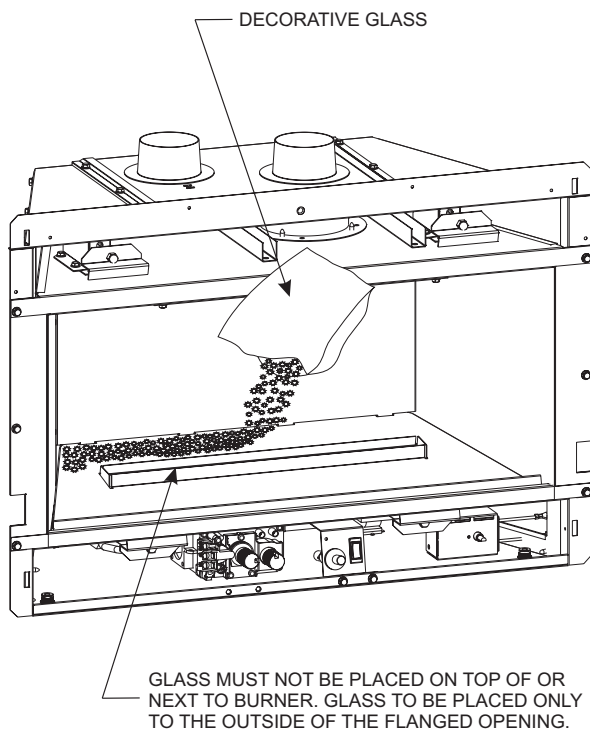
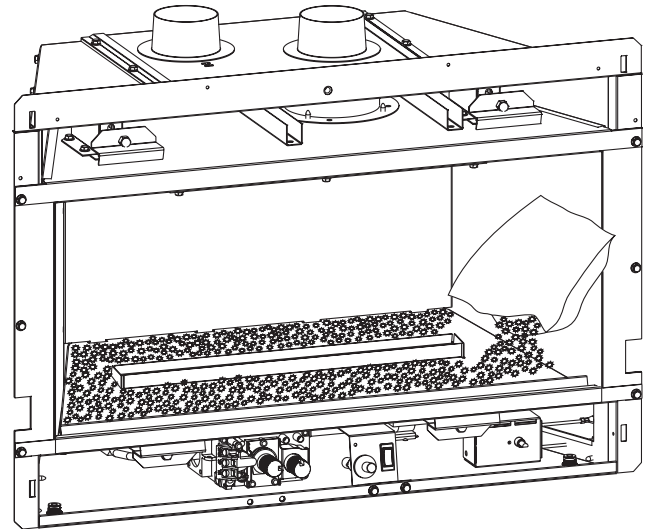

Figure 19
Figure 20
2. To install the Decorative Glass, cut off a corner of the plastic bag and proceed to apply the glass to the rear shelf on the Loft burner (area behind the burner). Apply only enough glass to the Top Cover to cover the black metal surfaces. Do not allow the glass to fall around the burner tube. See Figure 19. Apply the remaining decorative glass to the front sloped surface of the Top Cover. Start by placing the glass along the front edge of the top cover, then gradually place the glass up the sloped top until completely covered. Do not allow the glass to fall around the burner tube. See Figure 20.